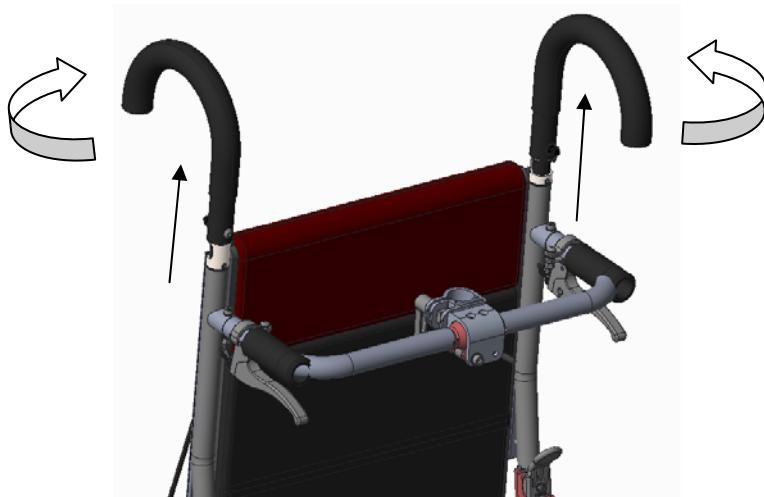

Fig. 1-18
- (1) Pull up the J-Hook handles. (See Fig. 1-18)
- (2) Swing the J-Hook handles leftward/rightward. (See Fig. 1-18)